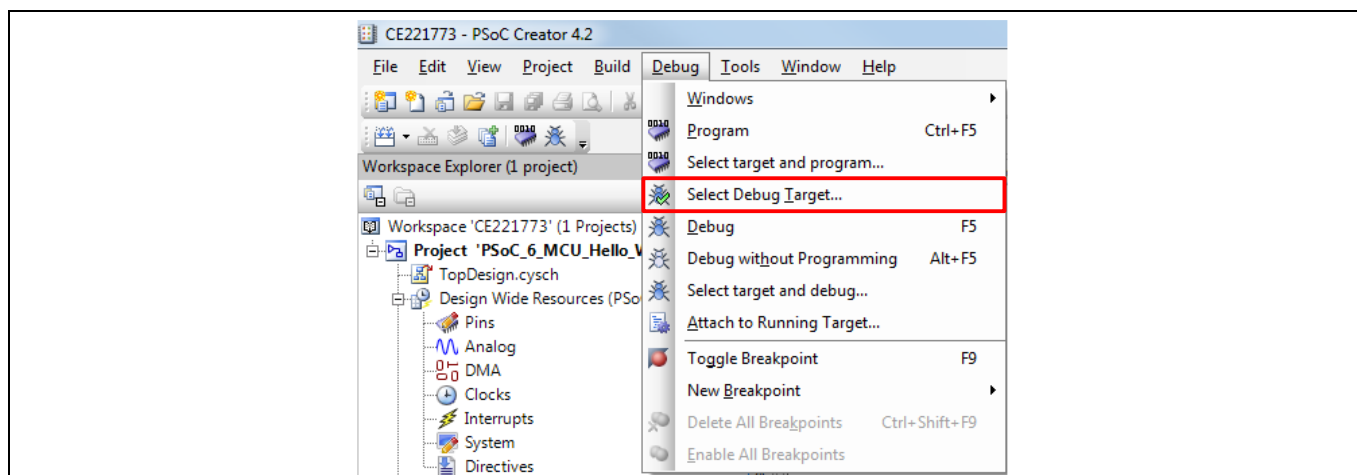

Figure 27 Selecting Debug Target
- In PSoC Creator, choose **Debug > Select Debug Target**, as Figure 27 shows.